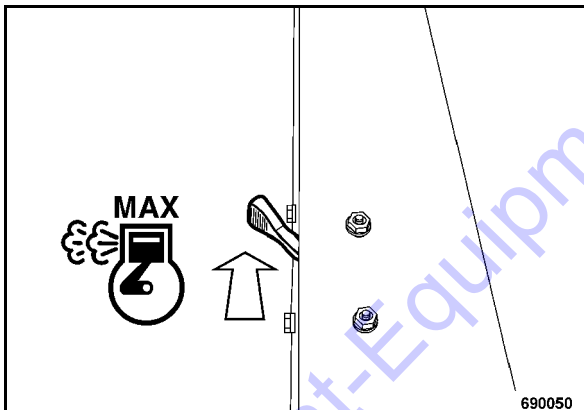

Fig. 23
- Set the throttle lever (Fig. 23) to position "MAX".